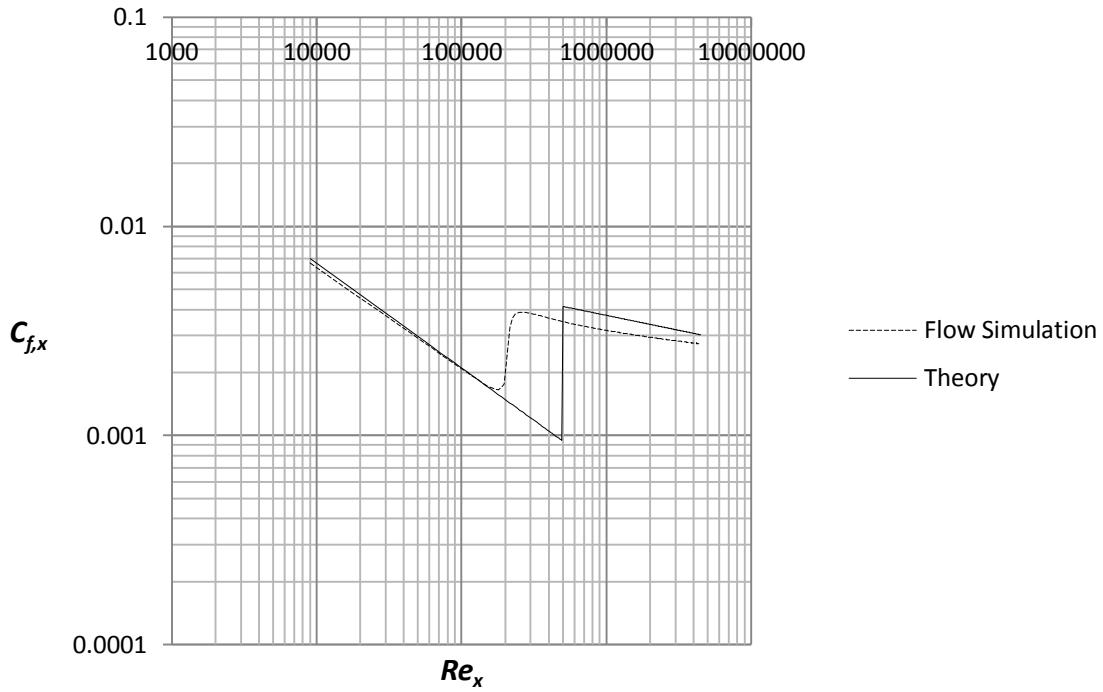

Figure 2.32 A comparison between Flow Simulation (dashed line) and theoretical laminar and empirical turbulent friction coefficients
34. Place the file “xy-plot figure 2.32” into the **Local Disk (C:/Program Files /SolidWorks Corp/SolidWorks Flow Simulation/lang/english/template/XY-Plots** folder to make it available in the **Template** list. Repeat step 24 and choose the sketch **x = 0 – 0.9 m**, uncheck the box for **Velocity (X)** and check the box for **Shear Stress**. Rename the xy-plot to **Local Friction Coefficient for Laminar and Turbulent Boundary Layer**. An Excel file will open with figure 2.32. Figure 2.32 is showing the Flow Simulation is able to capture the local friction coefficient in the laminar region in the Reynolds number range 10,000 – 200,000. At $Re = 200,000$ there is an abrupt increase in the friction coefficient caused by laminar to turbulent transition. In the turbulent region the friction coefficient is decreasing again but the local friction coefficient from Flow Simulation is significantly lower than empirical data.